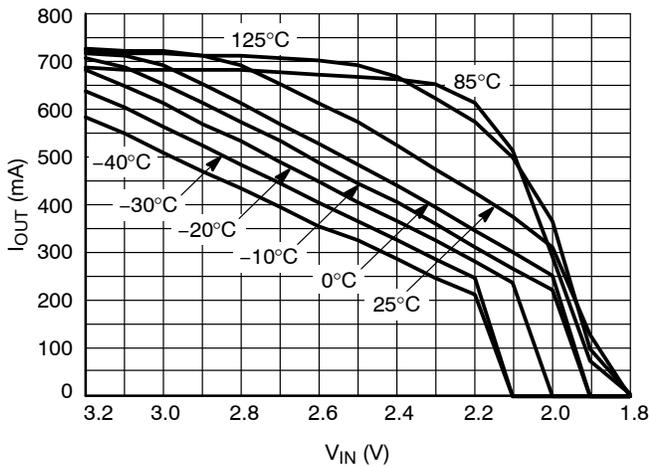

Figure 21. Output Current Capability for the 1.8 V Version
24. For output current capability for  $T_A < 0^{\circ}\text{C}$ , please refer to Figure 21.